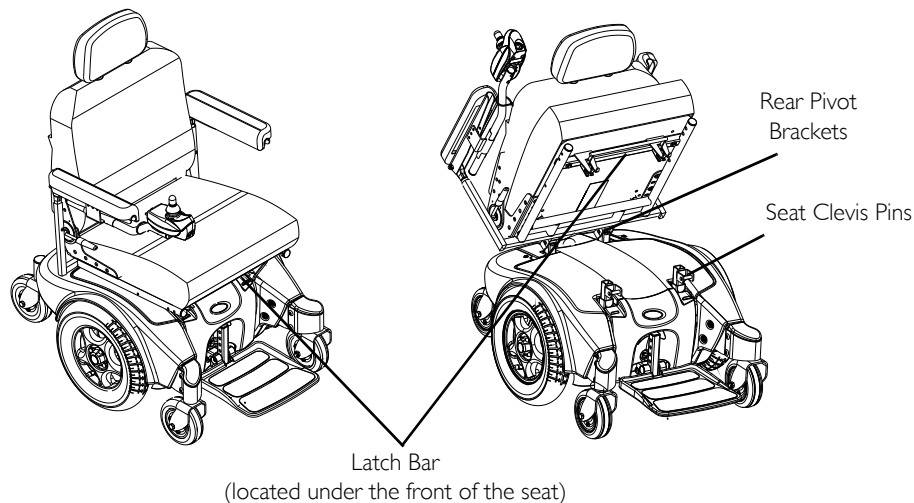

FIGURE 14 Removing/Installing the Seat Assembly
For this procedure, refer to FIGURE 14 on page 63.
1. Position the seat in the rear pivot brackets as shown in FIGURE 14.